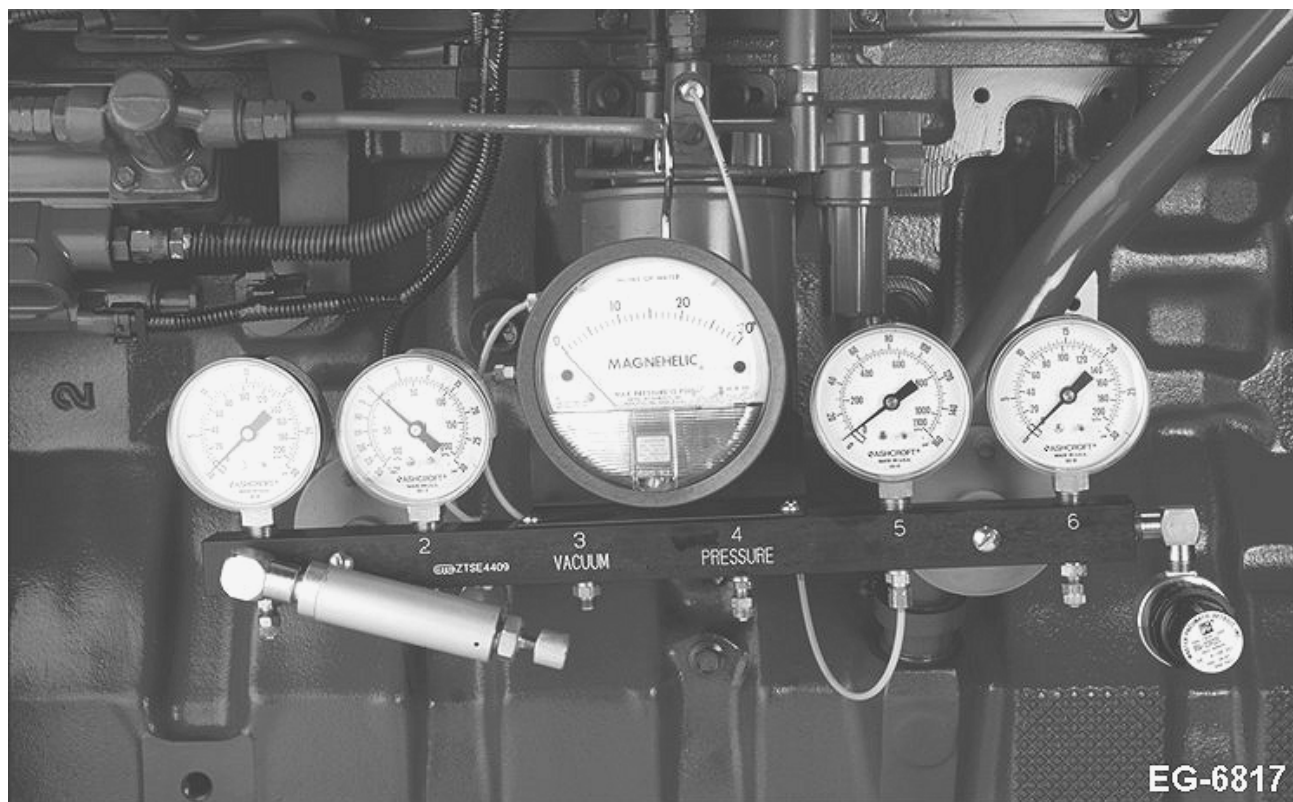

Figure 52 Measuring Fuel Pump Pressure with Gauge Bar (PS94-831-3)
2. Connect a line from the fitting to Gauge Bar. See Measuring Fuel Pressure with Gauge Bar (See Figure 52, page 94).